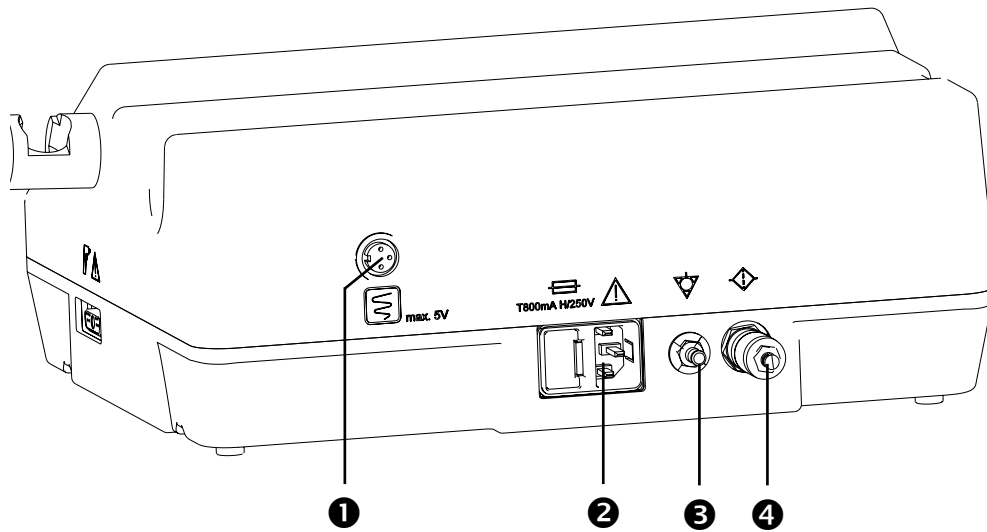

Fig. 2. Rear view
- Connect the mains cable to the mains supply (❶, fig. 2).
- When controlling an ENG (electro-nystagmograph) or a CNG (computer-nystagmograph) at output (❶, fig. 2), please connect only recording equipment approved by ATMOS. Connecting cable available from ATMOS (see section 8.0).
- Connection for potential equalization (❶, fig. 2). Connecting cable available from ATMOS (see section 8.0).